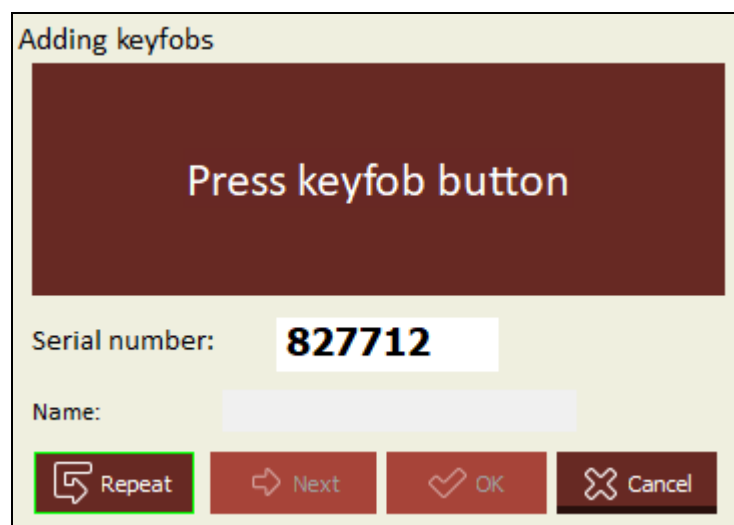

Fig. 11. "Adding keyfobs" window: the keyfob's serial number read during a transmission / entered by the user.
2. Press a button on the keyfob you want to add. The keyfob's serial number will be displayed in the "Serial number" field (fig. 11). Make sure that the number matches the serial number of the keyfob you are adding (you will find it on the keyfob's bag). If the numbers match, proceed to the next step. If they do not match, it means that the controller received a transmission from another SATEL keyfob. In that case, click  and enter the keyfob's serial number in the "Serial number" field.